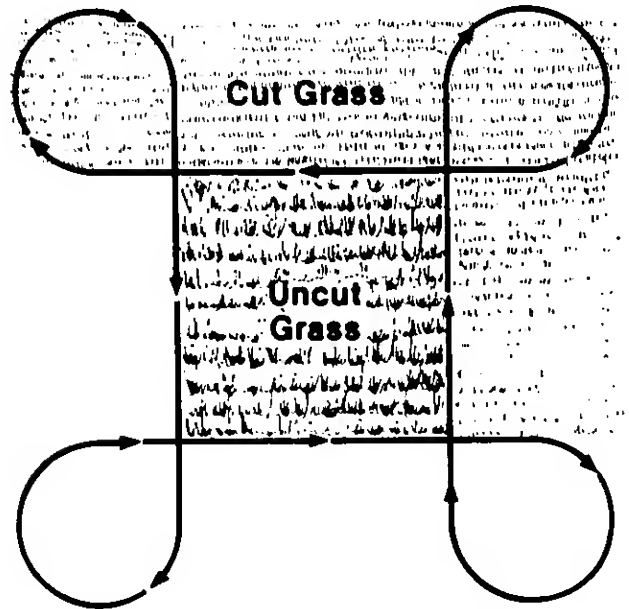

Figure 34
4. Follow the mowing procedure shown in Figure 34.